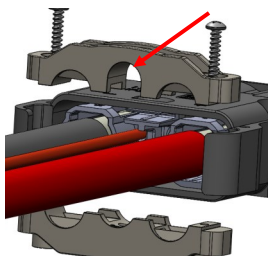

Figure 10
- a. Line up the top and bottom clamp with open pillars at the cable side of the housing (note the upper clamp has a larger "U" and should be on the side with polarity markings). (Figure 10)
- d. Tighten to .7 to 1.0 N-M [6 – 9 in-lb] of torque. (Figure 10)